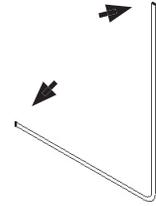

Fig. 26
Step 6. Draw lines between the ends of the offset lines. Press E key to select Endpoints before your click to draw the line. **Remember to press the E key first** then click the end of the line. Draw both lines, **Fig. 26**.